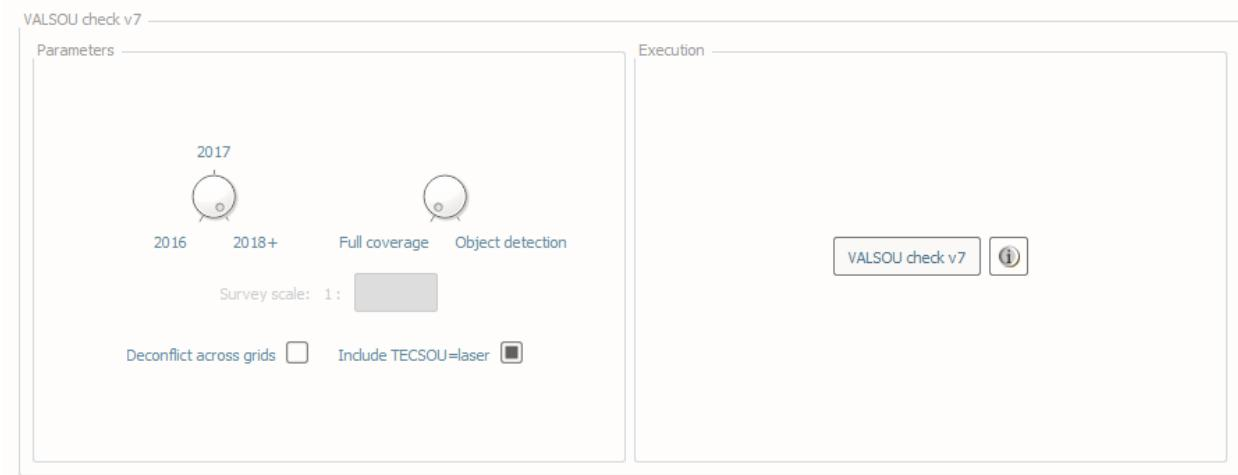

Fig. 2.49: The **VALSOU check** tab.
- Select the **VALSOU check** tab (Fig. 2.49) on the bottom of the QC Tools interface.